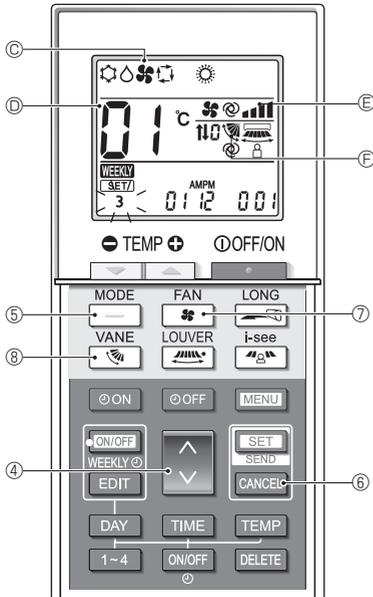
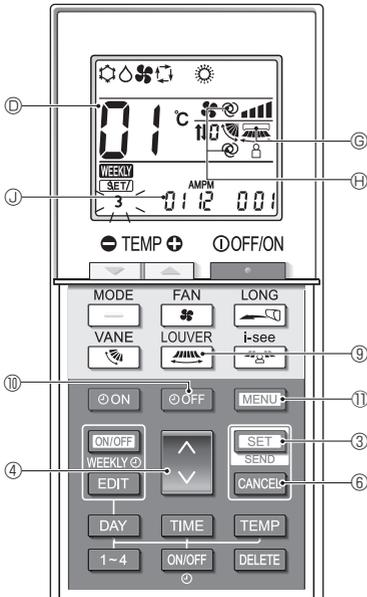

Fig. 6-2
Fig. 6-3
(Fig. 6-2, Fig. 6-3)
- If the s^e tting is ino^{rr} ec^t, pres the **[CANCEL]** button ⑥ and repeat the proe^{du} re from s^{te} p 1.
6.4. Completing the settings (Fig. 6-3)